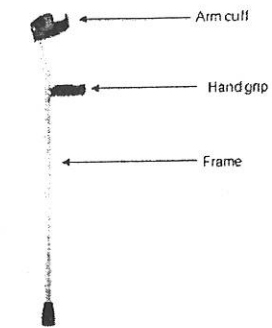

Fig. 15a Crutch
- (b) (i) With a neat sketch, explain the process of wire drawing. (7)
- (ii) Explain the process of metal spinning with an industrial example. (6)
15. (a) A medical device unit is manufacturing crutches as shown in Fig.15a. The frame is made of aluminium whereas the arm cuff and hand grip are made of plastics (nylon 66). With a neat sketch, explain how the plastic components (arm cuff and hand grip) are manufactured using Plastic injection molding.